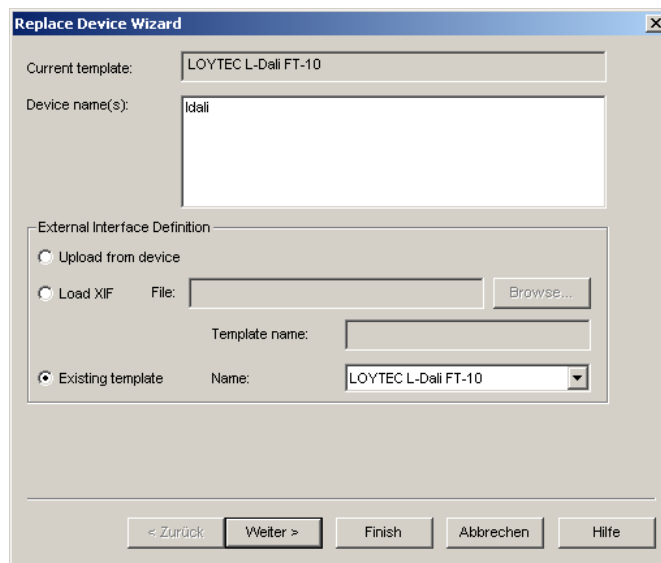

Figure 134: LonMaker replace device wizard.
2. Select **Commissioning** → **Replace....** This opens the LonMaker Replace Device Wizard as shown in Figure 134.